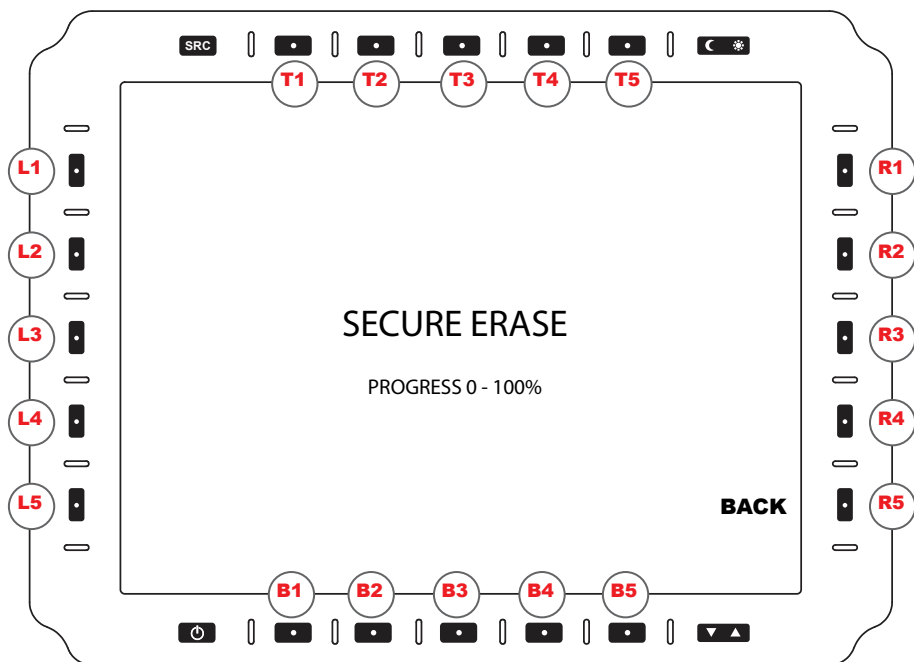

Figure 13
**YES (R4)**. Confirm Delete Action (Delete Selected, Delete All, or Secure Erase. For more on the Secure Erase process, see Secure Erase Menu (Figure 13).